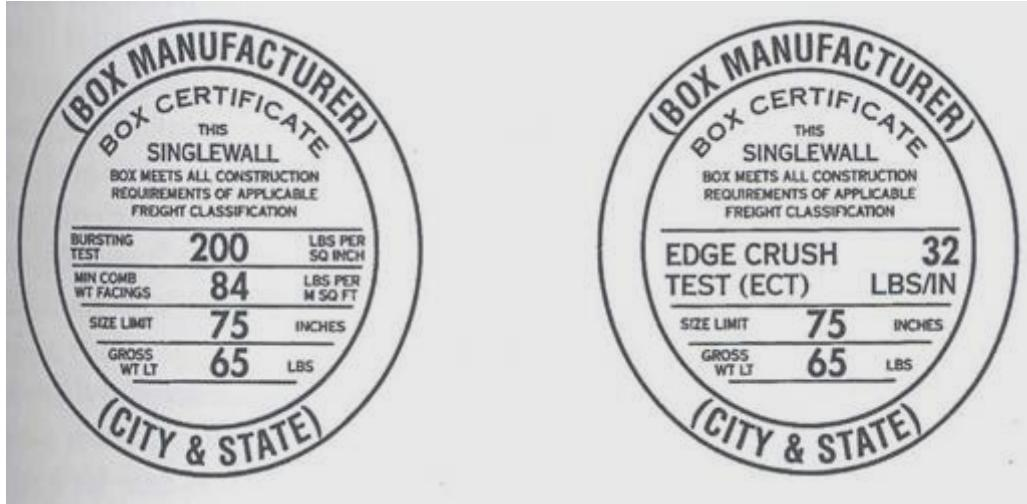

Figure 4.11 Box manufacturer's certificates using burst test and ECT values
- Table 4.6 summarizes the construction requirements for corrugated boxes. The rules also require that a box manufacturer's certificate (BMC) on the bottom of the container ( Figure 4.11).